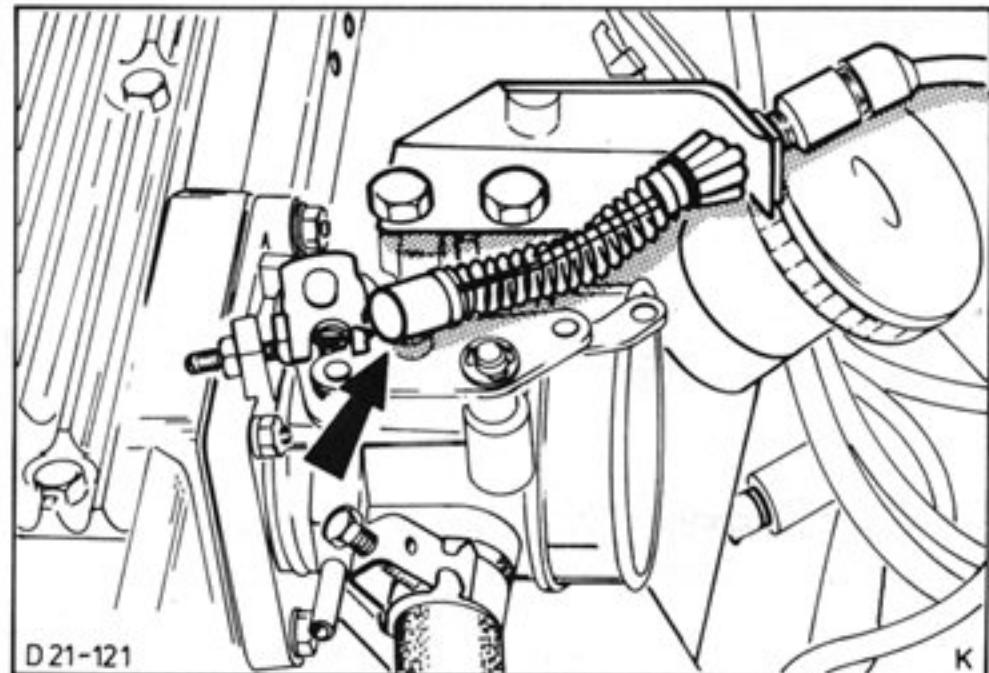

Fig.84. Detach throttle cable.
8. Detach throttle cable from throttle lever and remove complete with bracket (2 bolts), Fig.84.